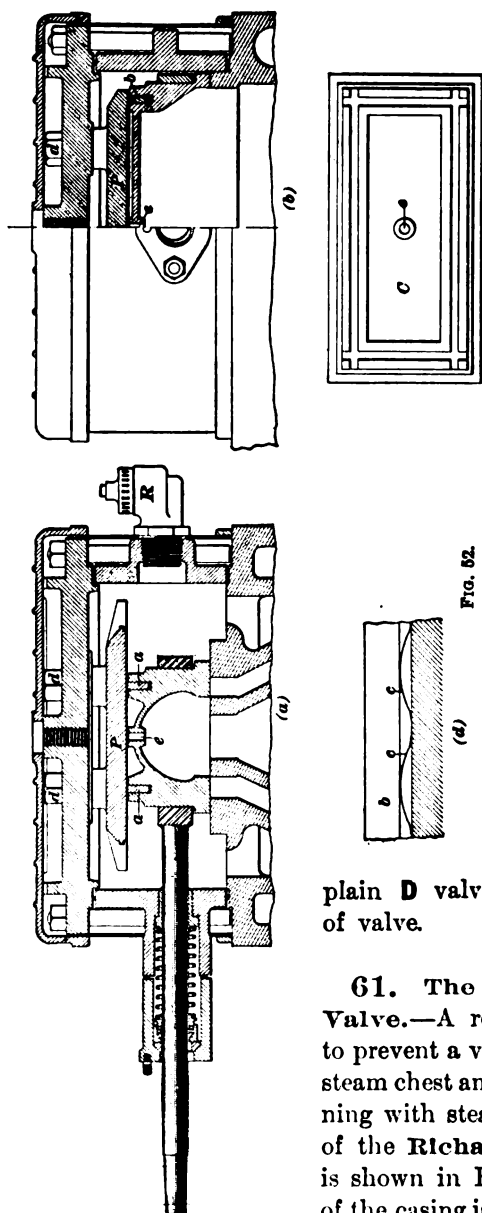

FIG. 52.
**60.** The *Richardson balanced valve* is illustrated in Fig. 52, in which (*a*) is a longitudinal section through the center of the steam chest; (*b*), a section through the center at right angles to the valve stem; (*c*), a view of the top of the valve, to show the arrangement of the grooves for the packing strips *a, a* and *b, b*; while (*d*) is a view of one of the end packing strips, showing the packing springs *c, c*.